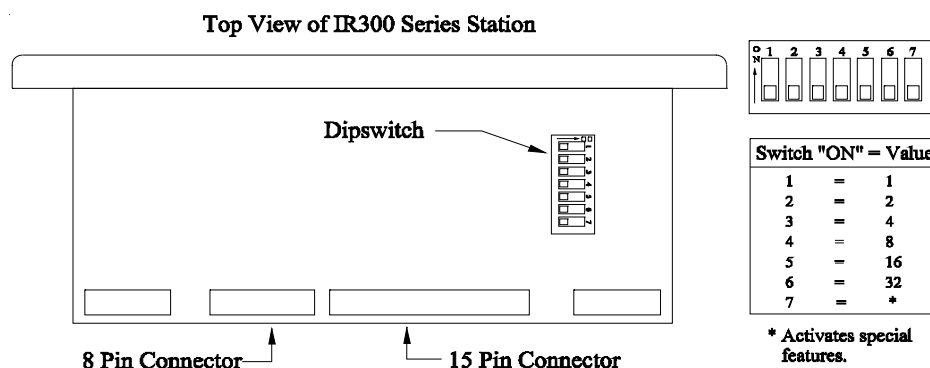

Figure 23 – IR3xx-series Stations Dipswitch Location and Switch Values
**IR3xx-series Stations:** These devices are addressed by turning on and off the 7 available dipswitches located on each device. Stations that occupy the same port must all have unique addresses (ranging from 00 to 63). The 7-switch dipswitch uses a binary configuration method (1 has a value of 1, 2 a value of 2, 3 a value of 4, 4 a value of 8, etc.). Using these values, the station address is represented by the sum of the values of all switches that are turned on. For example, if switches 2 (value 2) and 5 (value 16) are turned on, the address is 18 (2+16=18). Using this method, values of 00 to 63 can be generated using only switches 1 through 6. This leaves dipswitch 7 free for special features as described in the **Equipment Descriptions, Requirements and Location** section. See Figure 23 for reference.